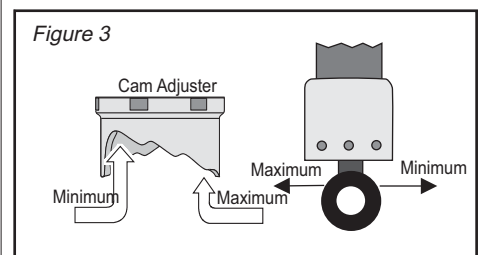
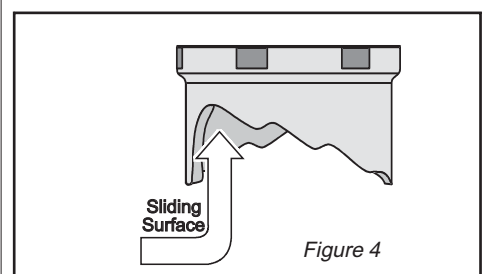

Figure 3
Figure 4
E. Using a spring compressor tool, compress the spring(s) enough to install the retaining clip (E), release the spring slowly, making sure the spring retainer clip seats fully in the top eye and the shock spring.
- Make sure both cam adjusters are adjusted to the minimum setting (see figure 3).
- If excess bottoming occurs, adjust preload cam to a higher setting on both shocks. (See Figure 3) If bottoming persists after adjusting to the highest setting, a spring with a higher rate may be required. For easier spring preload adjustments, put a small amount of cam adjuster lube (supplied) on the sliding surface prior to rotating the cam (see figure 4). If excess topping occurs with the cam at the minimum setting, a spring with a lighter rate may be required. Note: The 12 Series Shock has a hydraulic anti-topping design which slows the rebound damping dramatically towards the end of the shock travel. This damping feature helps keep the motorcycle stable as the shock returns from compression.